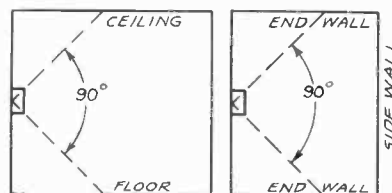

FIG. 1
**I**N the previous half of this article, which appeared in the August issue of *SUCCESSFUL SERVICING*, it was stated that the flat type of baffle is directional, i.e., it does have a definite angle of distribution, which is approximately  $90^\circ$  in both the horizontal and vertical planes. This distribution is illustrated in Fig. 1, both sketches of which are self-explanatory.